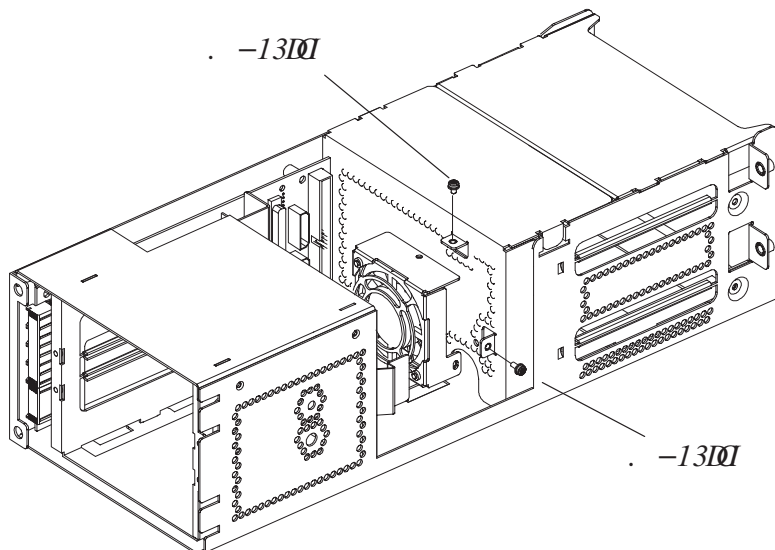

Figure 5-45. Removing the Storage Assembly Fan
8. Unscrew the two M3 screws holding the fan to the EMI divider as shown in Figure 5-45.